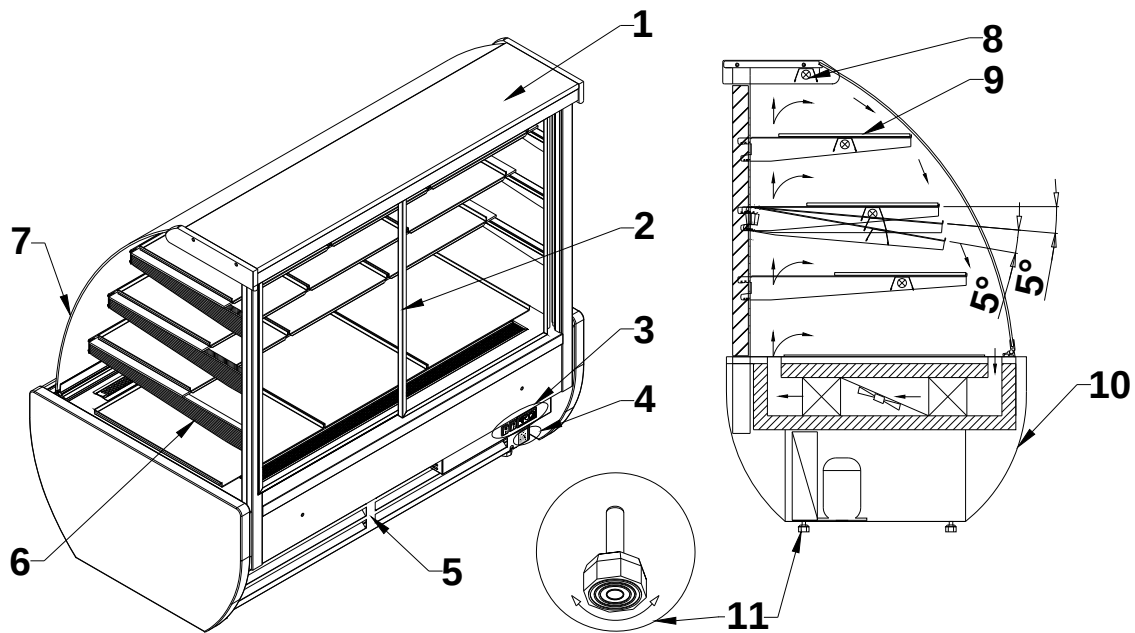

Fig.1 Construction of "Jamajka" device
- The device should be on an even and on a sufficiently hard base, and then level it with the help of feet Fig.1/ 11 \(p. 4\)